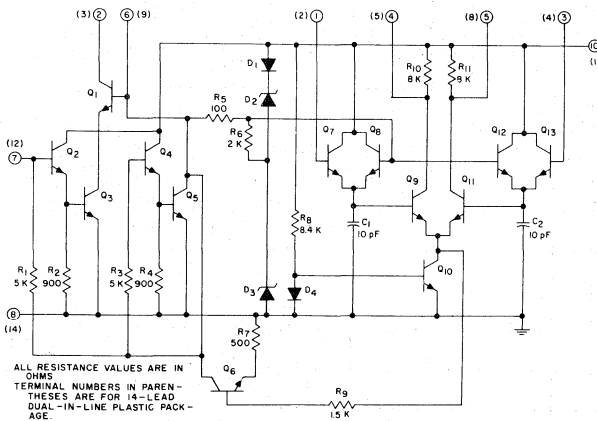

Fig. 4 — Schematic diagram for CA3064 and CA3064E.
- L₃ IS ALIGNED FOR ZERO DIFFERENTIAL OUTPUT BETWEEN TERMINALS 5 AND 8 AT $f_0 = 45.750$ MHz. FOR COIL CONSTRUCTION DATA, SEE FIG. 4(b).